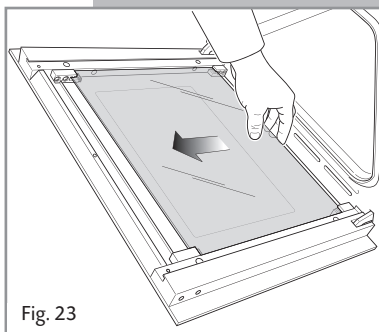

Fig. 23
- Gently unlock the middle pane of glass from the bottom clamps by moving it as in fig. 23.